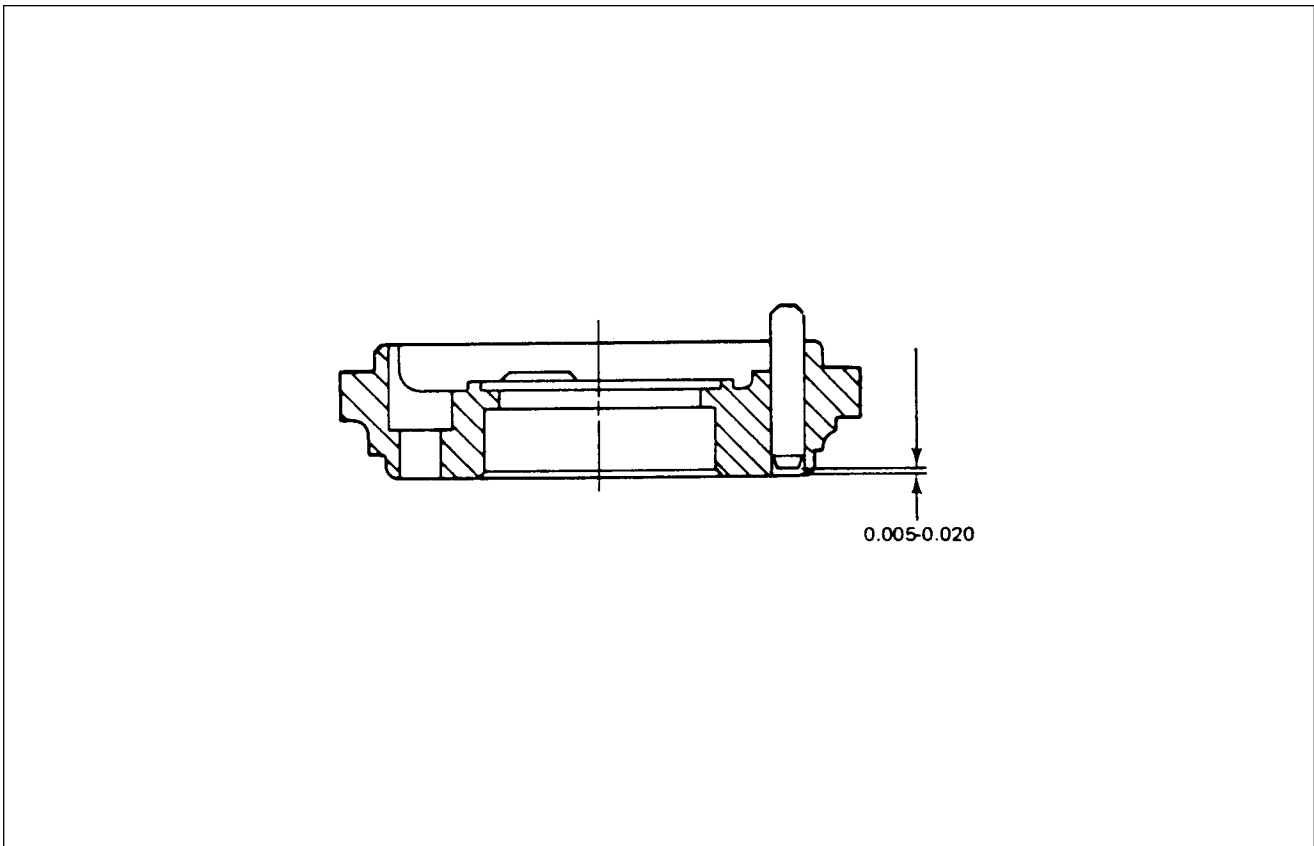

Figure 74-12. Stop Pin Installation Dimension
2. Inspect impulse coupling stop pins for damage. If pins are bent, damaged or excessively worn, remove pins using a suitable drift and arbor press. Press new pins into flange until dimension shown in figure 74-12 is obtained.